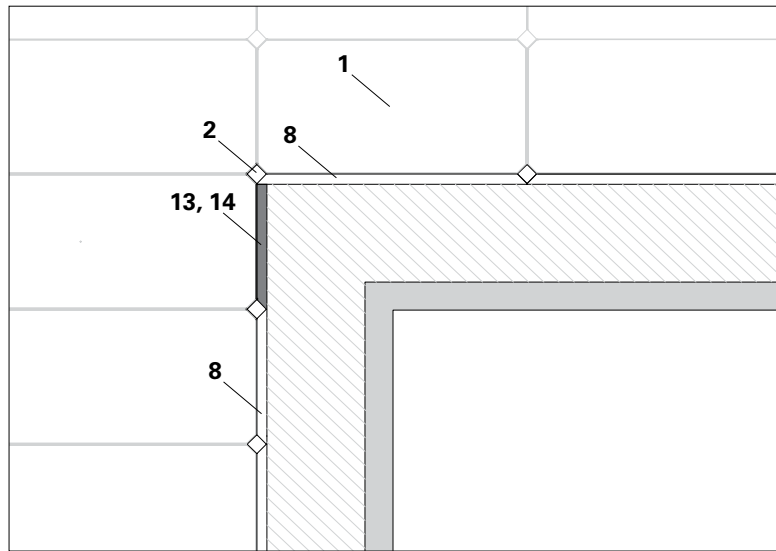
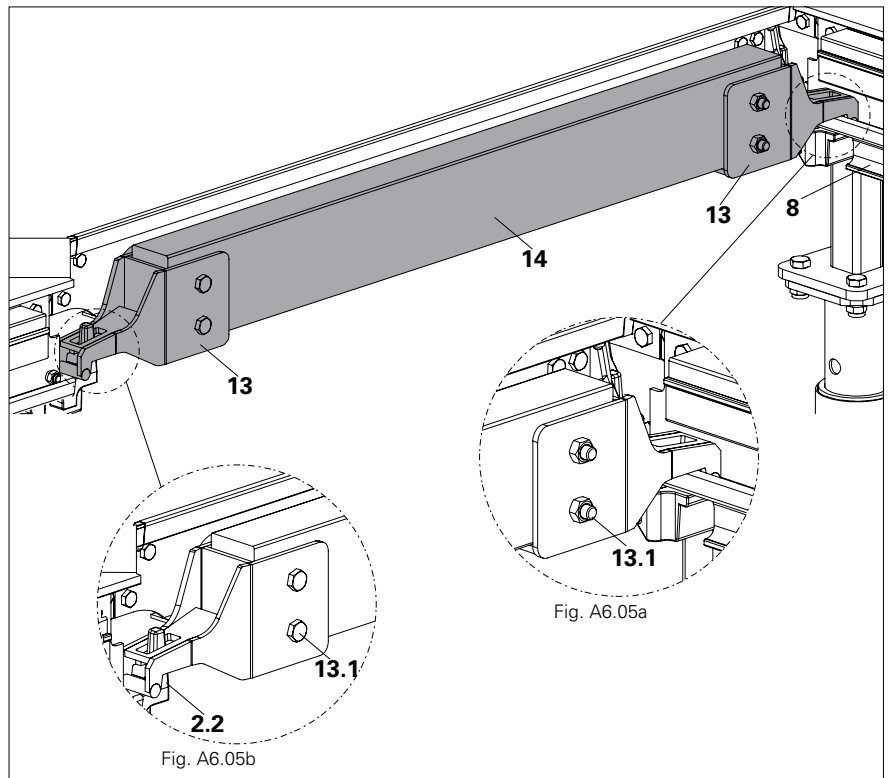

Fig. A6.04
Fig. A6.05
- Drill the timber (**14**) and attach the timber to cross beam head (**13**) with 2 no. of bolts and nuts (M10 x 80) (**13.1**) (Article no. 710593 and 710234) on each side. (Fig. A6.04), (Fig. A6.05) and (Tab. A6.02).